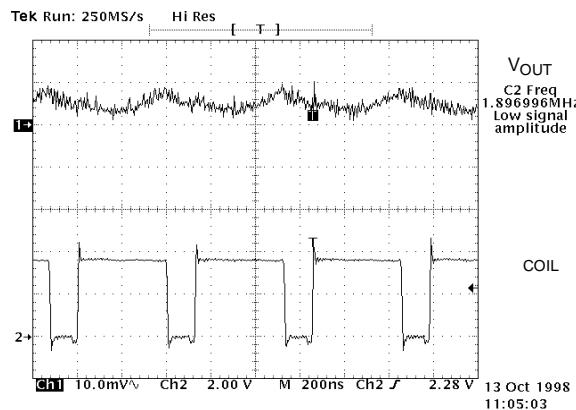

FIGURE 3. Buck DB PWM Mode: $V_{IN} = 3.6$ V, $V_{OUT} = 2.7$ V,
4. Put an oscilloscope ground on the input ground, and the Ch1 probe on the output and connect Ch2 probe on pin 20 of Si9169 (COIL pin). The waveform for buck and boost DB should appear approximately as shown in Figure 3 and 4, respectively.
CHANNEL LINEUP FOR FIGURES 3 THROUGH 6